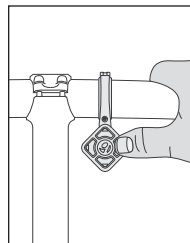

FIGURE 1.4
- Behind handlebar (Figure 1.4)